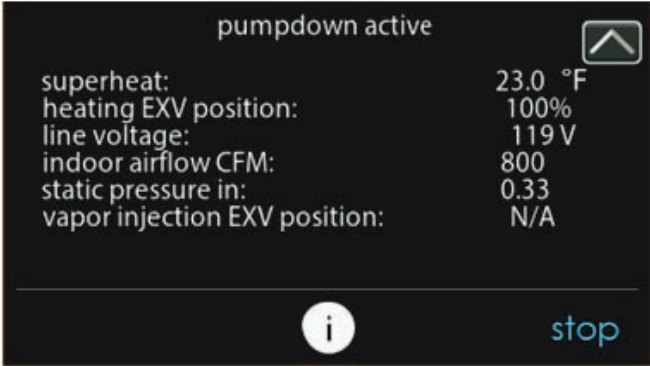

Fig. 25 – Pump Down Active Screen
- 4. Select Start on Infinity® System Control to begin the pump down process. Unit will begin running in cooling mode after a brief delay and a status screen will be displayed. See Fig. 25.